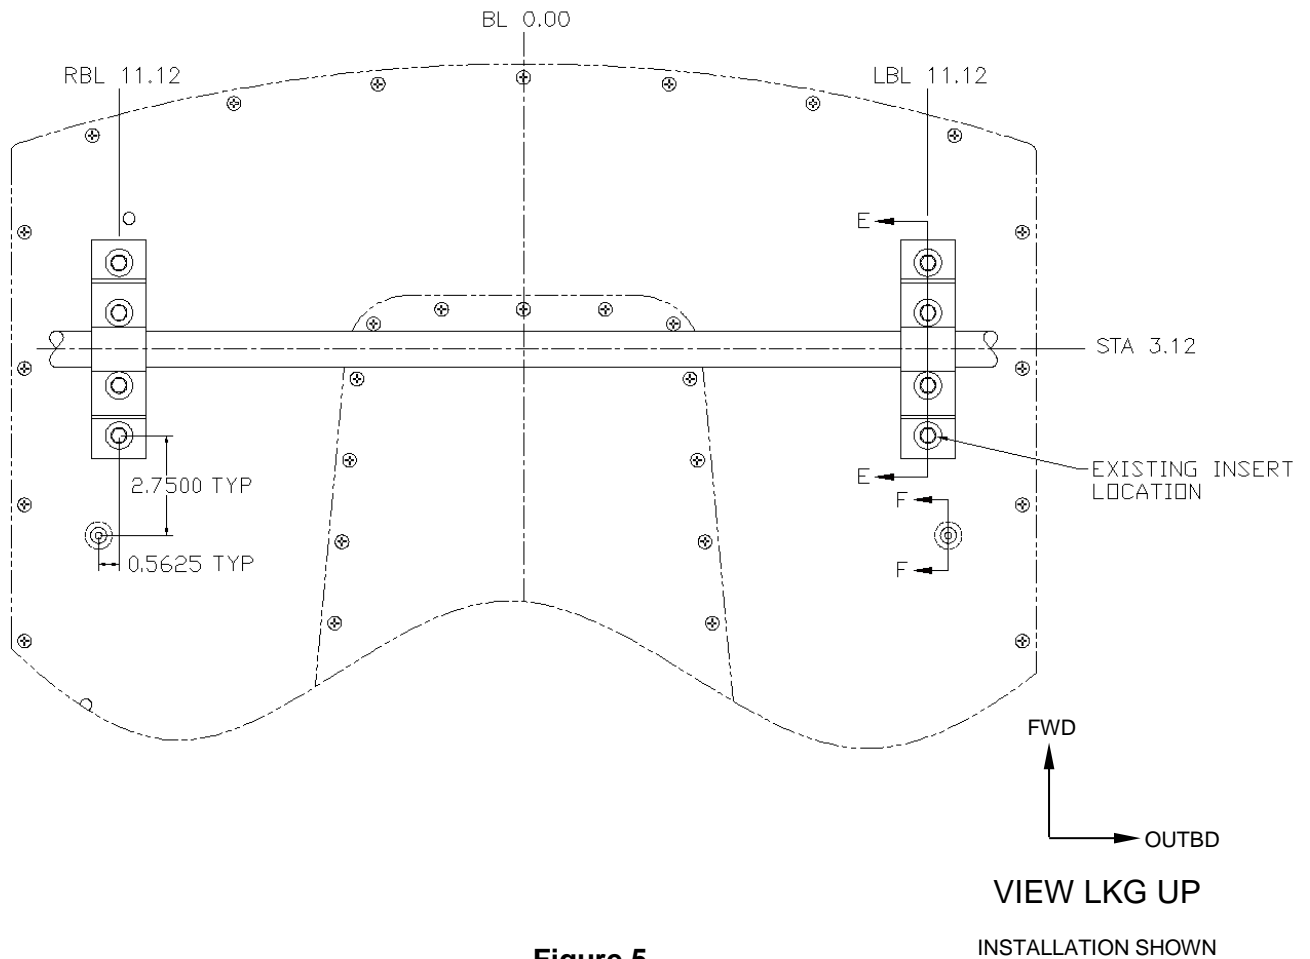

Figure 5
14. Mark the location of wire holes in the inverter bay panel in accordance with the dimensions outlined below. Reference Figure 5.
15. Drill and epoxy the wire holes as per standard practices outlined in Bell Structural Repair Manual BHT-ALL-SRM. Reference Figures 5 & 6.